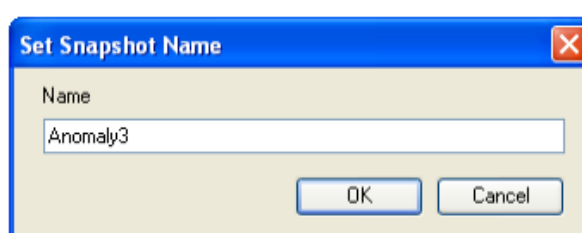

Figure 1.84. – Snapshot window
1. Zoom into an area of interest on your current map. Right-click and from the popup menu select *Create Snapshot*. The *Set Snapshot Name* dialog is displayed, fig. 1.84.